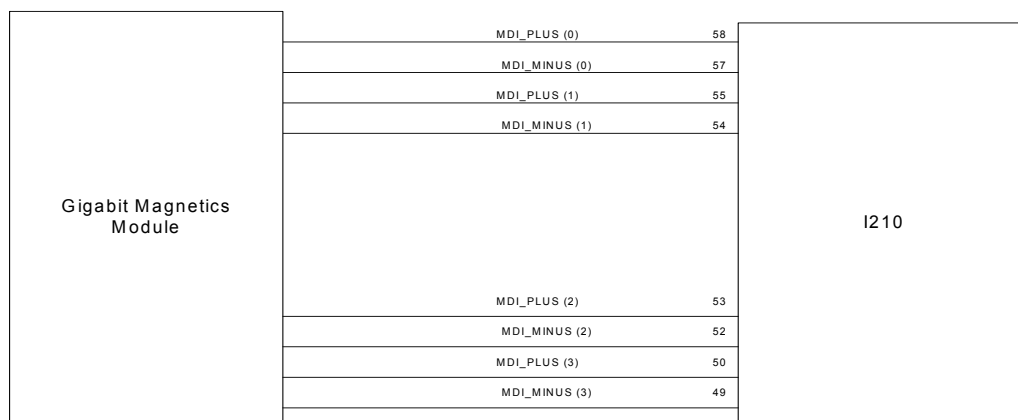
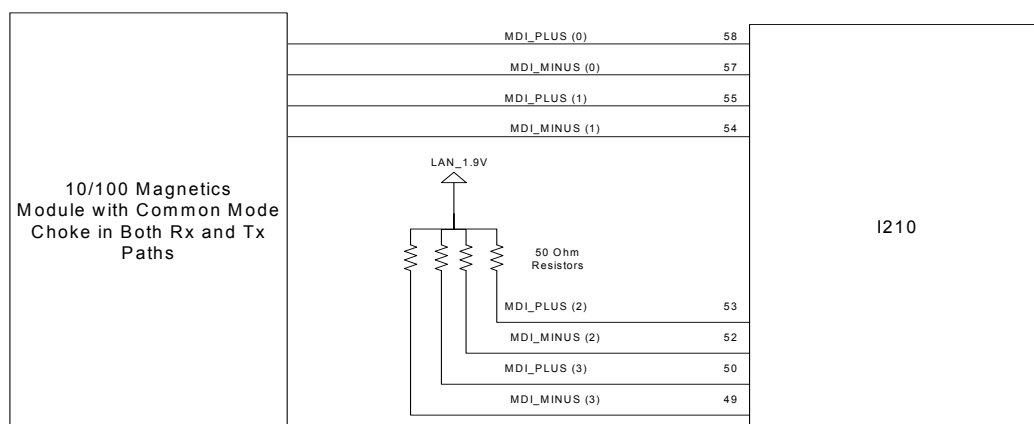

Figure 12-11. I210 Gigabit Magnetics Module Connections
Figure 12-12.I210 10/100 Mb/s Magnetics Module Connections (With CMC)
2. Connect MDI pair 0 (pins 57 and 58) and MDI pair 1 (pins 54 and 55) to your magnetics. MDI pair 2 (pins 52 and 53) and MDI pair 3 (pins 49 and 50) can each be pulled up to 1.9 V dc through a 50 Ω resistor or connected to the magnetics as a GbE device if it is desired at a later time to enable GbE by altering bit 4 of the Software Defined Pins Control (LAN Base Address + Word 0x20; Giga Disable). See Figure 12-11 and Figure 12-12 for details.